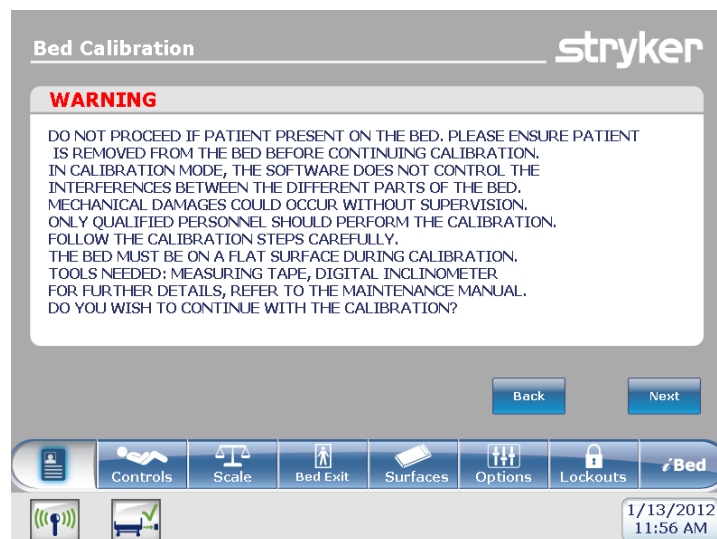

Figure 4: Bed Calibration - WARNING
4. After pressing the Bed Calibration button, Figure 4 will be displayed. Press "NEXT" to continue with calibration.